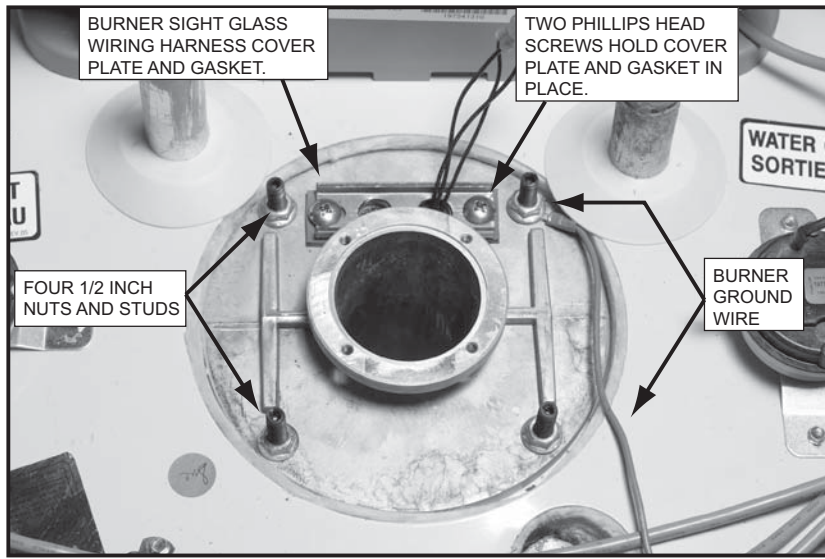

Figure 16
4. Using a socket wrench with a 1/2 inch deep well socket remove the four 1/2 inch nuts from the studs holding the Burner Adapter in place, see Figure 16 on page 17 and Figure 17 on page 17.
5. Slide the Burner ground wire eyelet connector up and off of the 1/2 inch stud it is secured to. This ground wire must be put back in place when reinstalling the Burner Assembly, see Figure 16 on page 17.
Flame sensing requires correct power supply polarity and an adequate earth ground to the water heater's Burner, see Electrical Requirements and the Power Supply Test on page 6. See Figure 16 on page 17 for the Burner ground wire location.
- The Burner not being grounded will cause **Ignition Failure** - see Electrical Requirements on page 6 and Figure 16 on page 17. Ensure the water heater and the Burner are properly grounded.